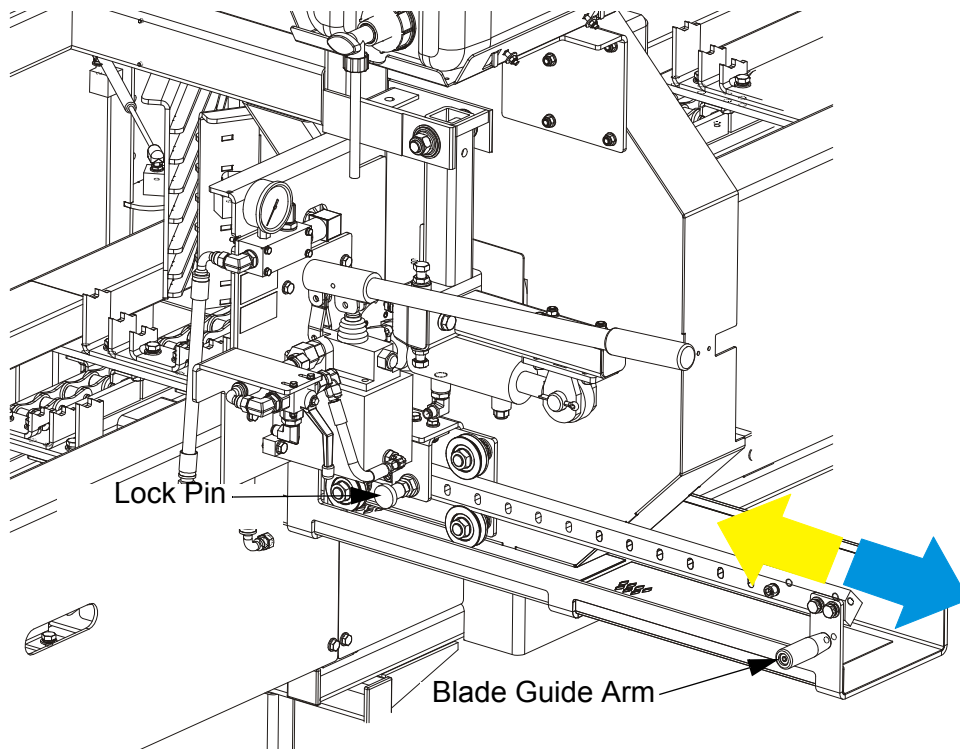

FIG. 2-9
**See Figure 2-9.** To move the blade guide arm, unlock the safety pin and slide the arm in or out. Lock the lock pin.